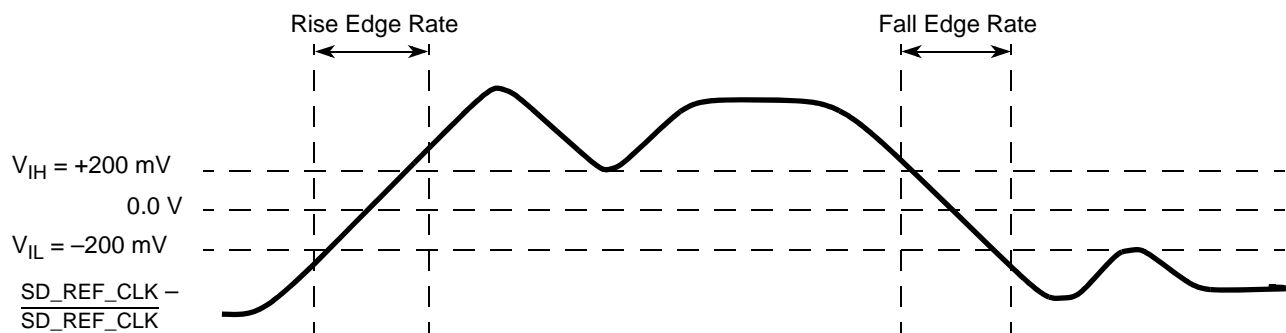

Figure 52. Differential Measurement Points for Rise and Fall Time
1. The differential waveform is constructed by subtracting the inverting signal ($\overline{SDn_TX}$, for example) from the non-inverting signal (SDn_TX , for example) within a differential pair. There is only one signal trace curve in a differential waveform. The voltage represented in the differential waveform is not referenced to ground. Refer to Figure 52 as an example for differential waveform.
3. Measured from -200 mV to +200 mV on the differential waveform (derived from SDn_REF_CLK minus $\overline{SDn_REF_CLK}$). The signal must be monotonic through the measurement region for rise and fall time. The 400 mV measurement window is centered on the differential zero crossing. See Figure 52.